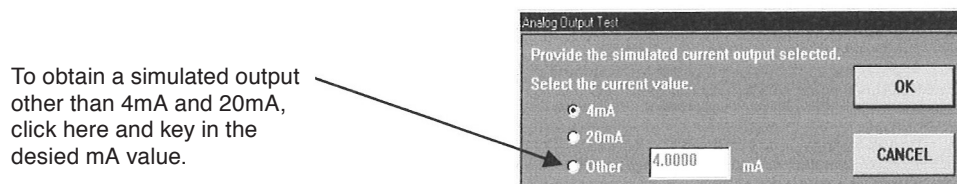

Fig.51
- ③ A window as shown in Fig. 51 appears. Select your simulated output option and click on "OK" button. If your option is an analog output (any current value between 4 and 20mA) other than "4mA" and "20mA", then select "Other", key in the desired analog mA magnitude, and click on "OK."
- ⑤ Clicking on "YES" button allows the message box shown in Fig. 51 to reappear. To check other output levels, follow the same setup and operations as outlined in ③. To exit "Analog Output Test", click on "CANCEL" at the message box in Fig. 51.